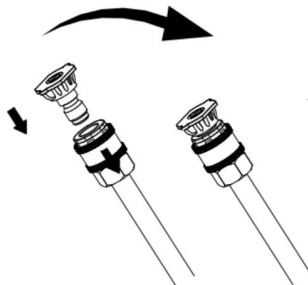

Fig.8
- Attaching the multi-spray nozzle as shown in Fig.8.